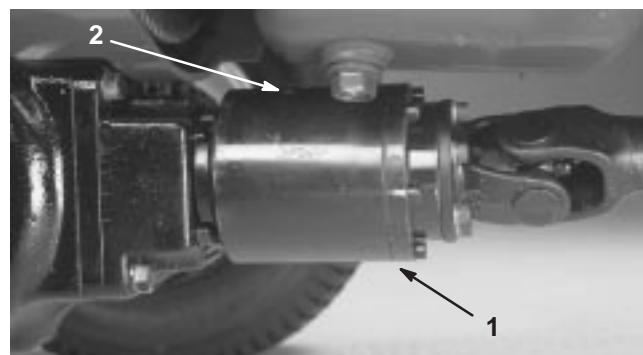

Figure 26
2. Rotate clutch (Fig. 26) so check plug (shown in 12 o'clock position) is positioned at 4 o'clock.